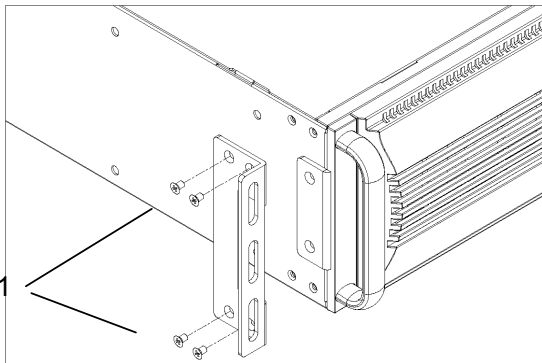

Fig 2.2 Installing the mounting brackets
1. Install the mounting bracket. See fig. 2.2.